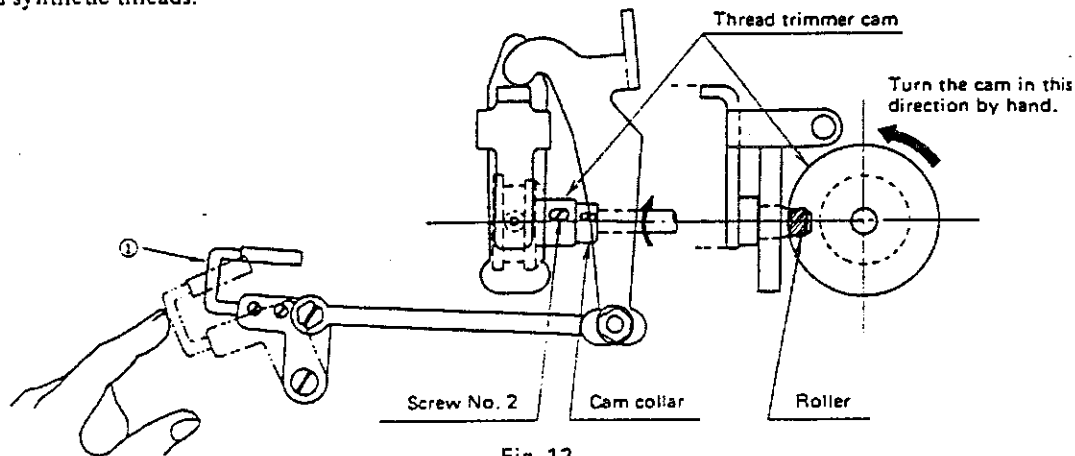
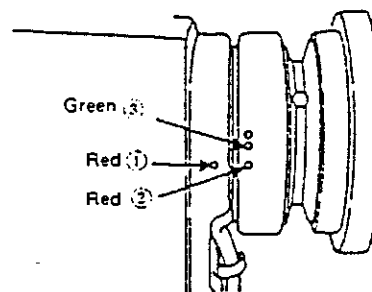

Fig. 12
Fig. 13
Tilt the machine head, manually turn the handwheel until the thread take-up lever almost reaches its highest position, and press thread take-up picker ① in Fig. 12 to the right by finger. This causes the cam roller to fit in the groove of the thread trimmer cam. With this condition maintained, turn the handwheel in the direction opposite to the normal rotational direction, and you will find a position in which the handwheel no longer turns. Then, adjust the cam timing so that marker dot ① (Fig. 13) on the machine arm is aligned with marker dot ② (Fig. 13) on handwheel as shown in Fig. 13. This provides the proper cam timing for cotton and synthetic threads.
Loosen screw No. 1 first, and then screw No. 2 (Fig. 12), and align red marker dot ② on the handwheel with red marker dot ① on the machine arm.
Fit the cam roller in the groove of the cam while pressing thread take-up picker ① (Fig. 12) to the right. Manually turn only the cam (do not turn the hook driving shaft) in the direction opposite from the normal rotation of the hook driving shaft (see the arrow in Fig. 12) until a position in which the cam goes no further is reached.
In this position, press the cam against the thrust collar of the thread trimmer cam (Fig. 12), and retighten the screw No. 2 first and then the screw No. 1. If the cam collar has not been moved, press the thread trimmer cam against the cam collar, and retighten the screw No. 2 first and then the screw No. 1.
- ① A few beginning stitches are skipped.
- ② Thread slips off the needle at the start of sewing.
- ① Align marker dot ① (Fig. 13) on the machine arm with green marker dot ③ (Fig. 13) on the handwheel.
- ② Use the soft start function for the first starting stitch.
- ⑥ Align red dot ② (Fig. 13) on the handwheel with red dot ① (Fig. 13) on the machine arm.
Check whether the tension disc No. 2 floats 0.5 to 1 mm (0.019" to 0.039") when thread take-up picker ① (Fig. 12) is pressed to the right with the thread take-up lever located slightly below its highest position and the presser foot lifted.